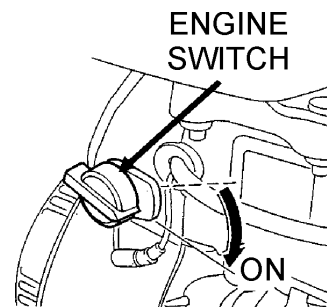

Figure 24. Engine ON/OFF Switch (ON Position)
5. Place the ***engine ON/OFF switch*** (Figure 24) in the "ON" position.